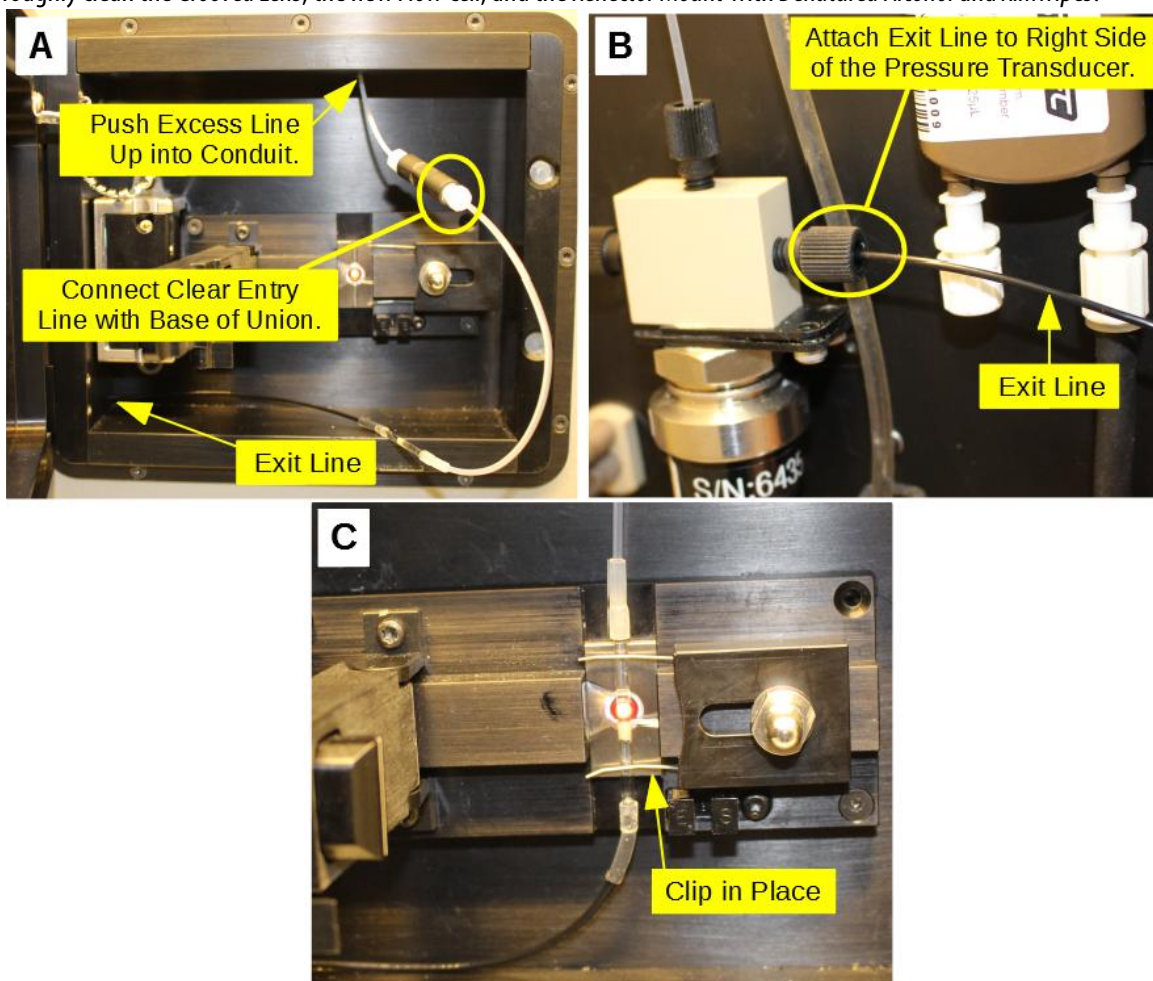

Figure 1: Routing diagram for the Flow Cell.
- Attach the *Clear Entry Line* to the Base of the *Union* using the *Extra Short Nut* and the *1/16" Tan Ferrule* (included with the new *Flow Cell*). Torque the *Extra Short Nut* to **15 in-oz** using the *1/4" Deep Socket (015902)* and the *15 in-oz Torque Wrench (024140)*. Route the *Clear Entry Line* upwards through the hole (located on the top of the *Optics Housing Frame*), making sure the *Union* is hidden from view. (Figure 1, A)
- Slide the *Black Exit Line* through the *O-Ring* (located on the lower left side of the *Optics Housing Frame*) and connect it into the right side of the *Pressure Transducer* using a *1/16" White Ferrule* (included with the new *Flow Cell*) with the saved *Black Nut*. (Figure 1, B)
- Apply a thin film of *Dielectric Grease (231362)* onto the *Flow Cell* before securing it with the *Retainer Clip* and attaching the *Reflector Mount*. (Figure 1, C)